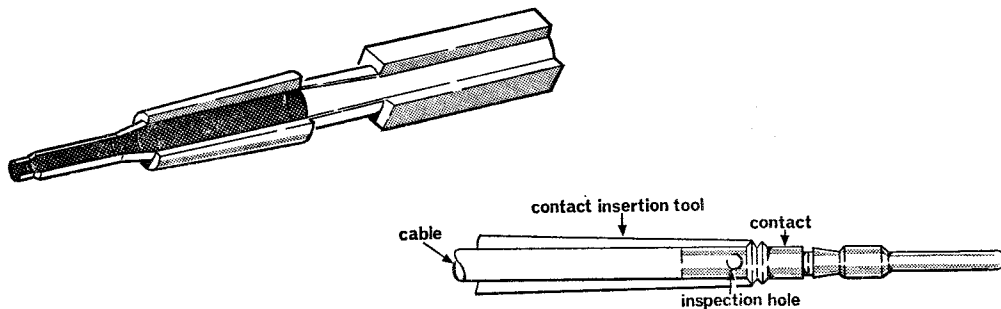

Fig. 7 Contact insertion (Hellermann Deutsch)
- b. Apply the insertion tool to the crimped contact and cable, ensuring that the end of the insertion tool is butted against the shoulder of the contact (see figure 7).